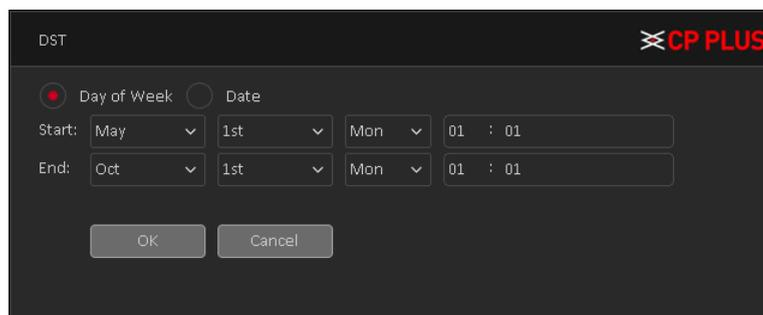
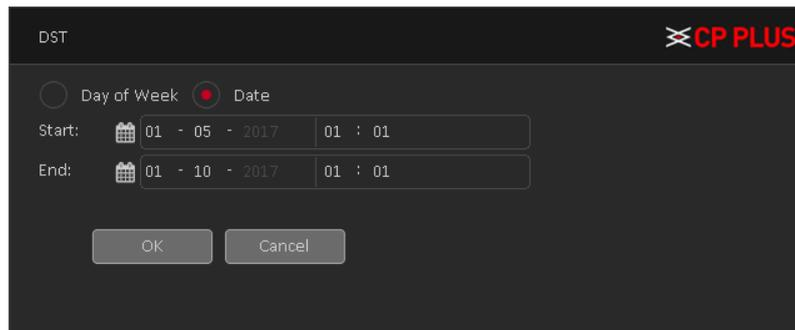

Figure 4.47
Figure 4.48
- **[Daylight Saving Time]:** Daylight Saving Time feature set start time and end of daylight saving time, as shown in Figure 4.47 and Figure 4.48.